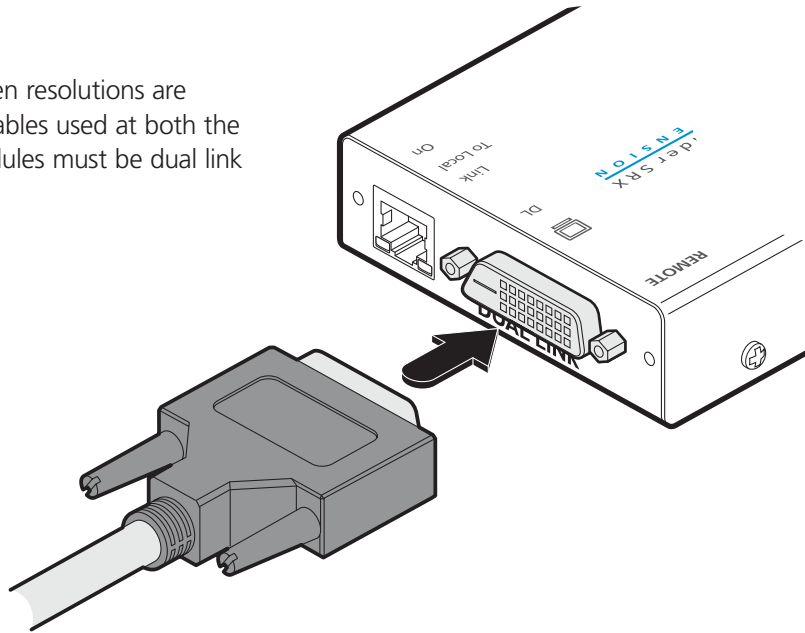

Figure 3-9. Attaching the DVI/D video monitor cable
2. Connect the DVI/D lead from the video monitor to the DVI output socket of the remote module as shown in Figure 3-9: